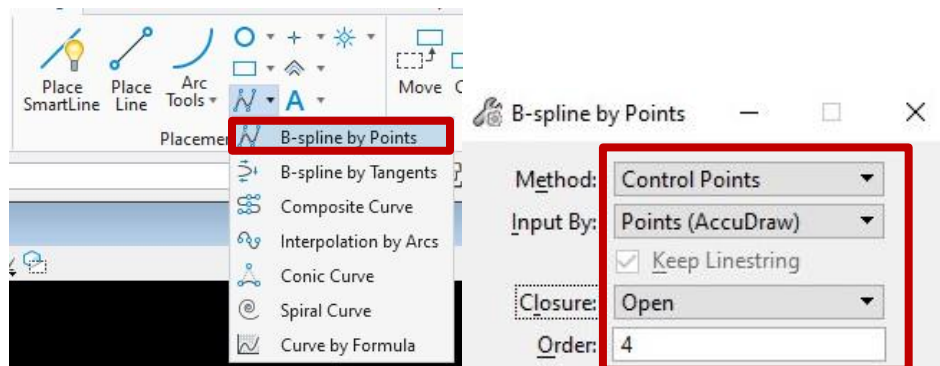

Figure 24 – B-Spline by Points
1. Draw a spline using the B-Spline by Points tool (**Figure 24**) following the approximate path that the vehicle would take through the roundabout. The Method for drawing the spline should be by Control Points, the Input By should be Points, the Closure should be Open to draw a line rather than a shape, and the Order, or minimum number of points, should be 4.